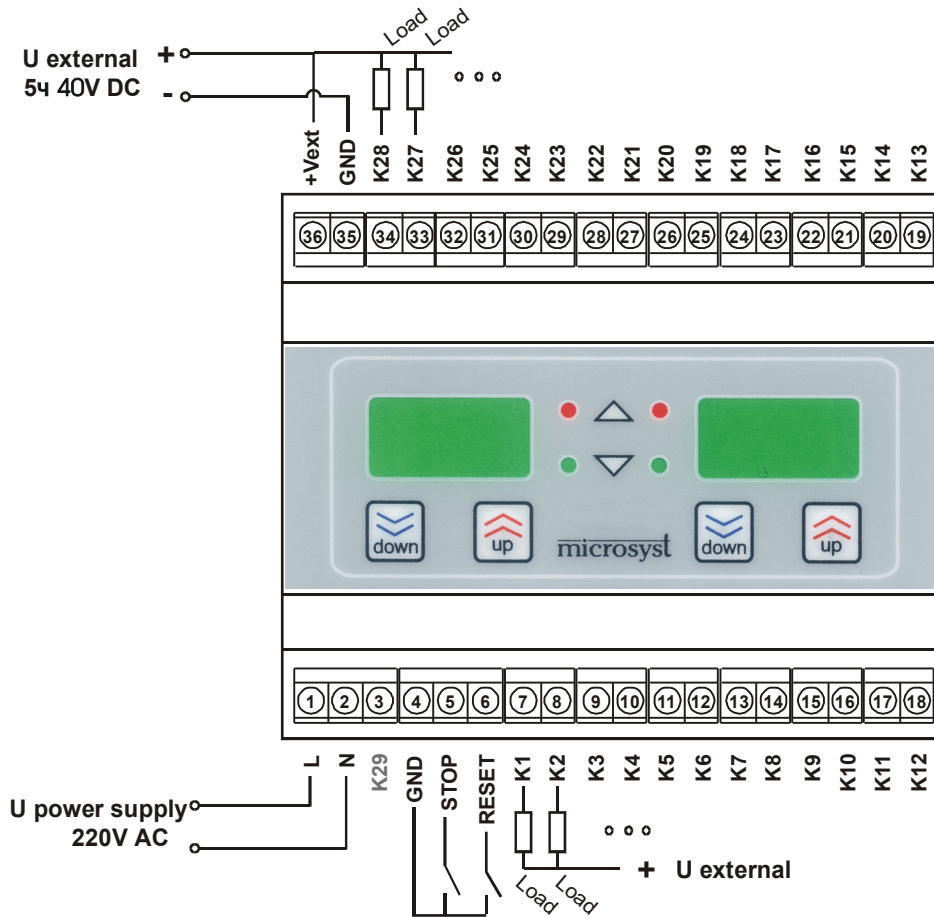

Figure 3.1 Electrical connection
- The electrical connection of the device is made by given diagrams figure 3.1.
- **Terminal +Vext (36) must be connected to +Uexternal (there is a protection function).**
- Output K29 (3) standard is not on terminal (option).